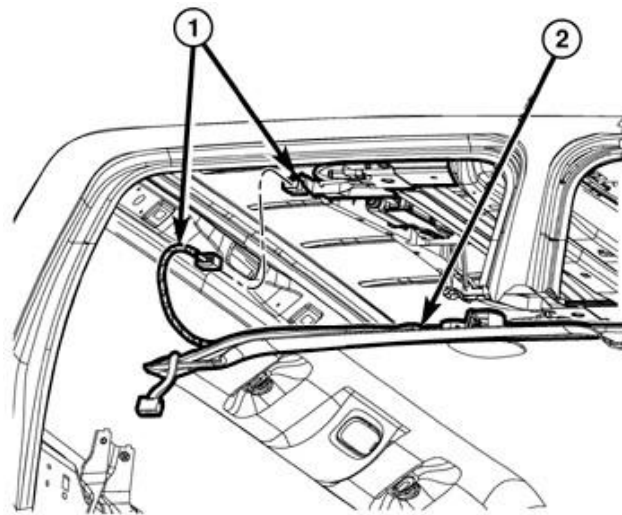

Figure 83 – Headliner Harness
26. Carefully lower the headliner (2) allowing it to rest on the seat backs and instrument panel (Figure 83).
CAUTION: Disconnect any wiring harness electrical connectors (1) as necessary to allow enough wiring harness slack while lowering headliner. It will not be necessary to remove the headliner from the vehicle (Figure 83).
43. Raise the headliner into proper vehicle position and connect any electrical connectors previously disconnected from the headliner (Figure 83).